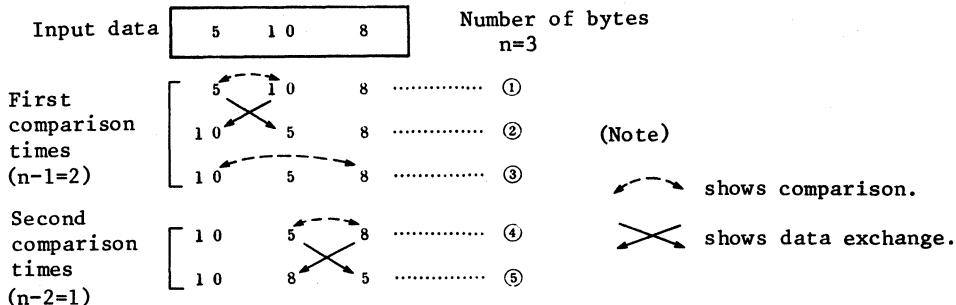

Fig. 2 Example of Sorting
(a) Fig. 2 shows how three byte values are sorted in descending order.
(See Fig. 2 ①, ② and ③)
(See Fig. 2 ④ and ⑤)